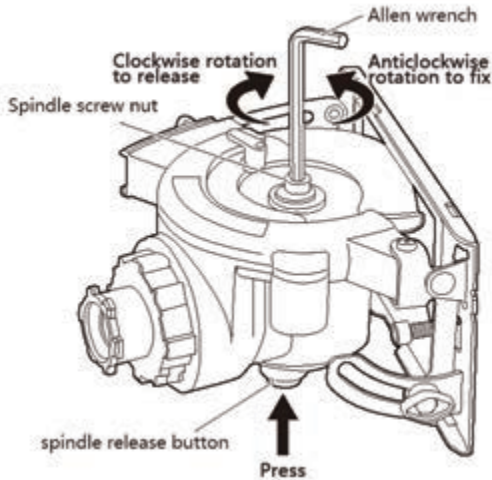

Figure 3
- 3) Press the spindle release button at the same time rotate the allen wrench clockwise.(Figure 3)